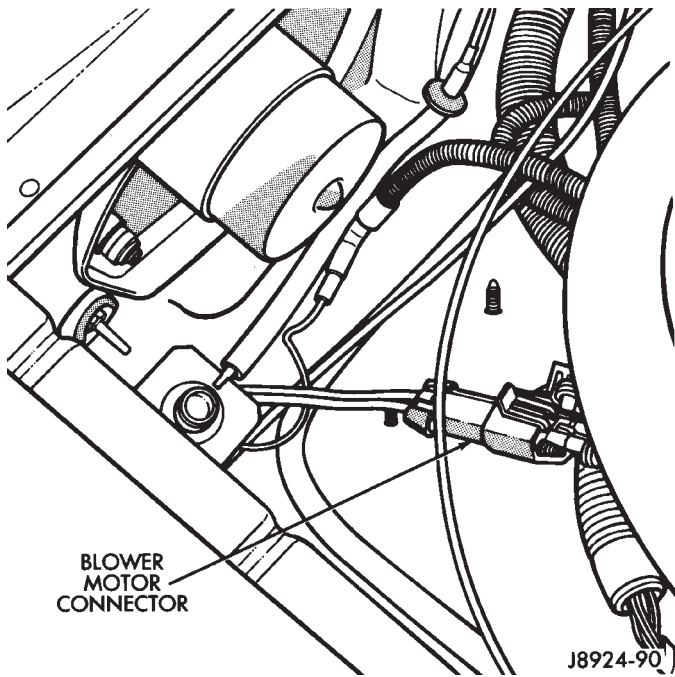

Fig. 9 Blower Motor Connector
- (1) Disconnect the blower motor wires (Fig. 9).
- (1) Remove the coolant bottle retaining strap and move bottle aside.
- (2) Remove the coolant bottle bracket.
- (3) Remove the anti-lock brake pump and bracket as an assembly (if equipped) and move the pump aside.
- (4) Disconnect the blower motor wires (Fig. 9).